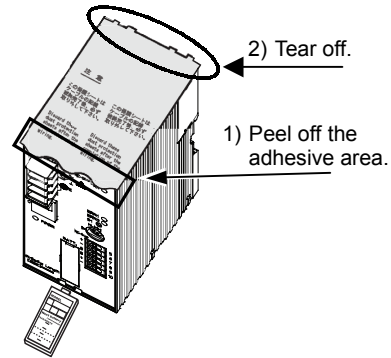

Figure 10. Protective sheet
- 8) Peel off the protective sheet on the top surface of the product before turning ON the power. (See Figs. 10 and 12.)